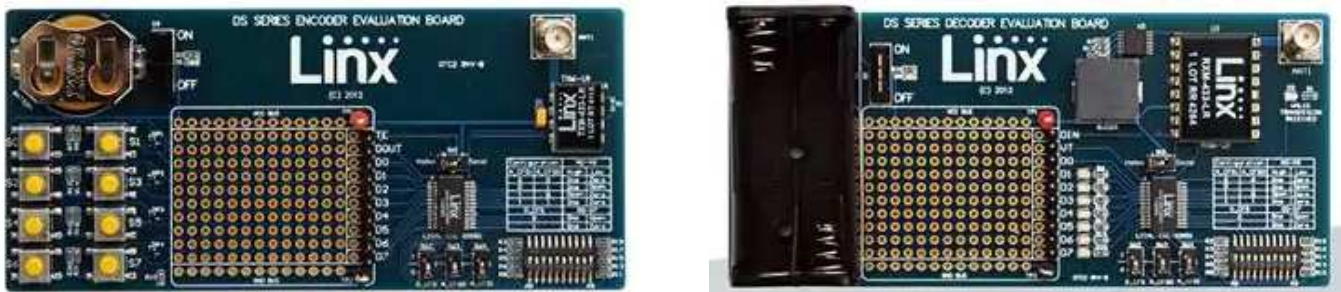

Fig. 2: Tx and Rx board from the EVAL-xxx-DS kit
Fig. 2 shows the RF Tx/Rx Linx EVAL-xxx-DS kit [1], which is based on three IC's; an Encoder (LICAL-EDC-DS001), a Tx-chip (TXM-xxx-LR) and Rx (RXM-xxx-LR) chip, where xxx equals the frequency 315, 418 or 433 MHz. For both boards together roughly 25 euro. For in house (i.e. short distance) applications the on-board antenna is more than sufficient. With the EVAL kit, set at 1mW output power and in combination with the short 5cm antenna [2] one is able to cover a distance of 200m. The Tx chip has an adjustable output power level and the encoder/decoder chip has 1022 unique addresses to avoid interference with possible other Linx modules used in the near surrounding. A serial protocol, which reduces transmit errors is implemented too. So, if you are out of reach there is just no data. Till now I didn't see wrong data. If the flag Valid Transmission (VT) is set the data is correct.